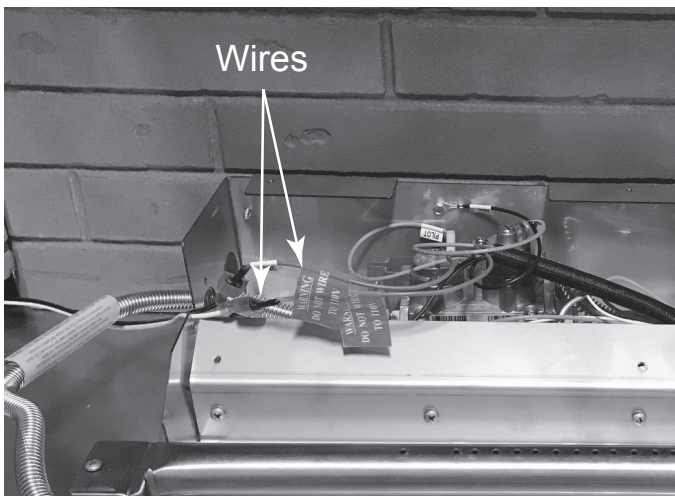

Figure 3.10 Connect Wall Control Wires
- Connect Wall Control wires to the (2) brown wires from the appliance control module. See Figure 3.10.